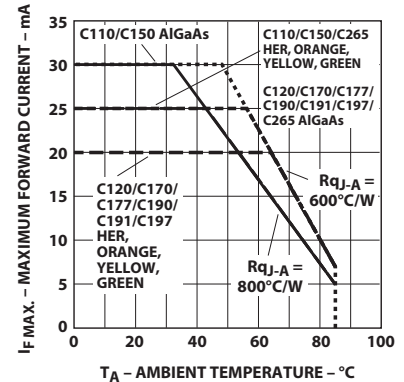

Figure 4. Maximum forward current vs. ambient temperature.
1. Derate linearly as shown in Figure 4 for temperature above 25°C .